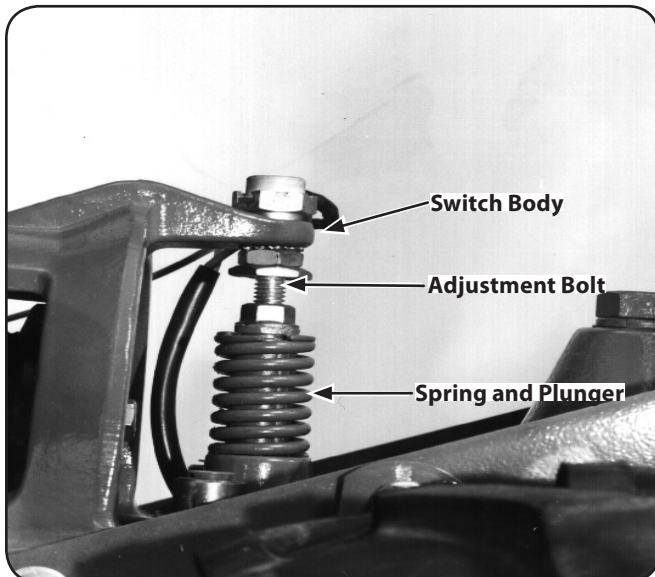

Figure 6-19
When the Wheels/Tines/PTO Drive Lever is moved up into REVERSE, the engine and engine mount move down to press on the reverse adjustment bolt. See Fig. 6-19.
The spring and plunger assembly is designed to prevent the reverse disc from making contact with the transmission pulley until you shift into REVERSE. When the lever is in NEUTRAL, the switch body on the bottom of the engine mount tab should be resting squarely on top of the reverse adjustment bolt. See Fig. 6-19. The reverse adjustment bolt can be adjusted up or down to correct a number of reverse drive operating problems, as explained next.
6. Move the Wheels/Tines/PTO Drive Lever to NEUTRAL. The switch body on the bottom of the engine mount tab should be resting squarely on top of the reverse adjustment bolt, and the reverse disc should be at least $\frac{3}{16}$ " away from the transmission drive pulley. See Fig. 6-19. If the reverse disc is any closer than this, raise the reverse adjustment bolt (turn it counterclockwise).